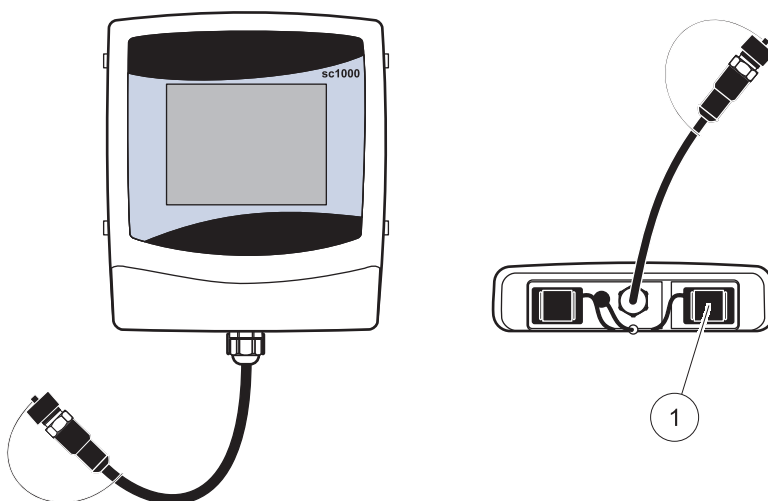

Figure 5 Ethernet port on sc1000 controller display module
2. Connect the sc1000 controller to the network by inserting an Ethernet cable into the RJ45 Ethernet port (Figure 5).